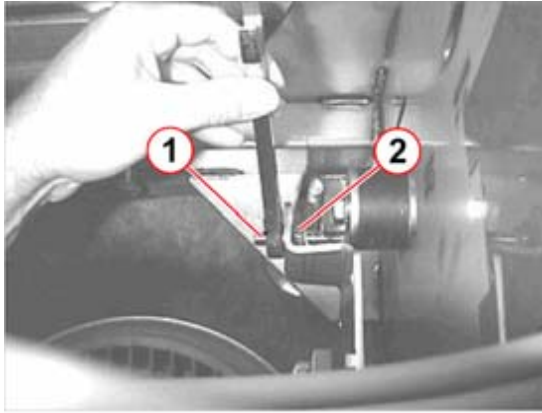

Fig. 26: Belt 1
- To have a reference point for the toothed belt tension, mark with a permanent marker the position of the nut "a" and "b" (1, 2/Fig. 26 / p. 30). Additionally check the toothed belt tension by hand.